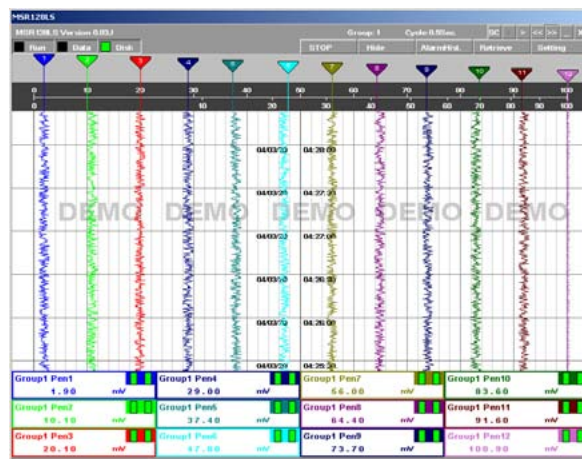

Figure 4.1.2a: Perpendicular graph.
- Perpendicular: Data stream from the top to the bottom (Figure 4.1.2a)